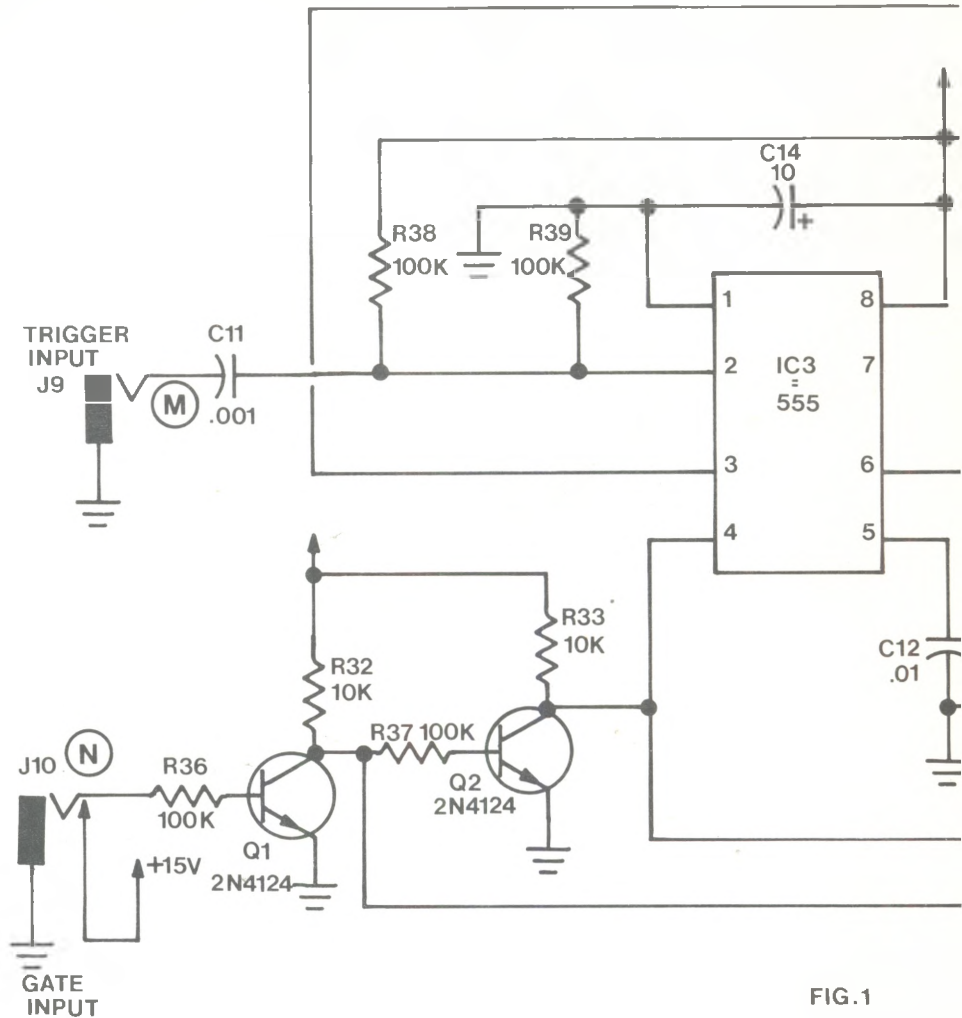

FIG.1
**How it works.** Referring to figure 1, note that since I built the ADSR as part of a Dual ADSR/-Dual VCA module (the VCA was covered last issue), the circuit designations start up where they left off last time. The resistors start at R29, the capacitors at C11, and ICs at IC3 and so on.